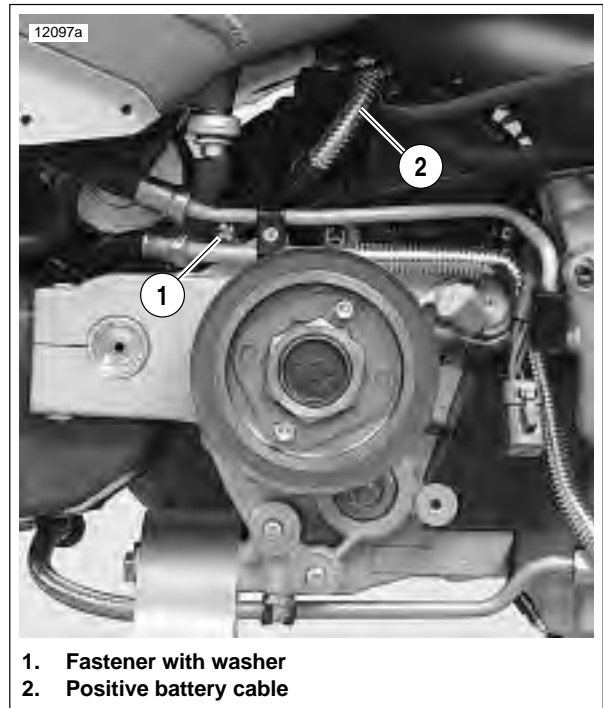

Figure 7-82. Positive Battery Cable (Protective Boot Not Shown)
8. See Figure 7-82. Disconnect positive battery cable from starter.